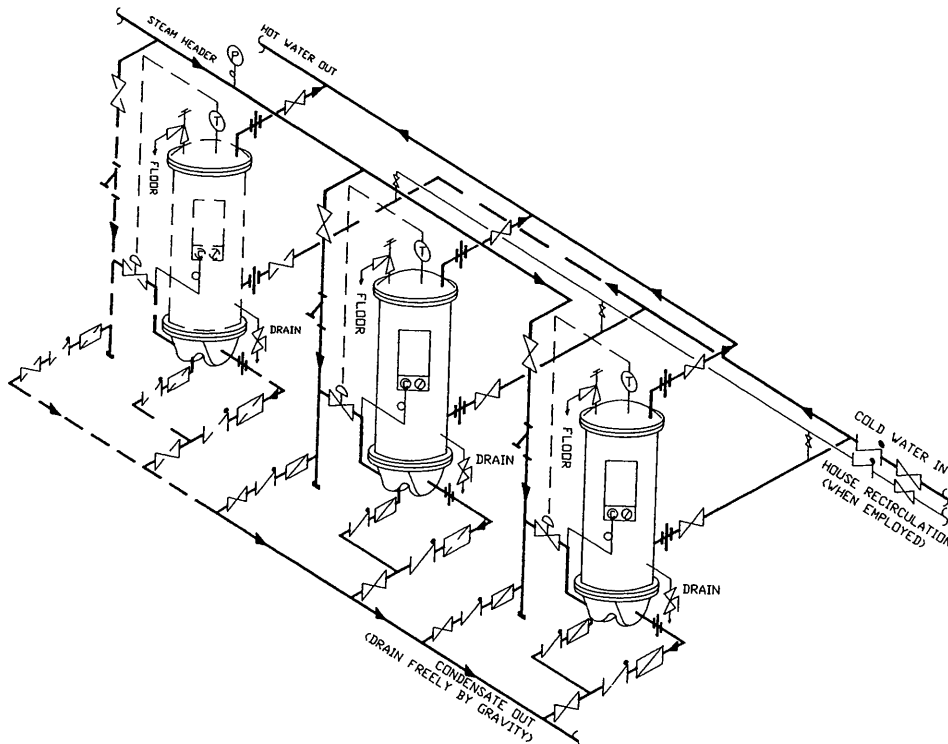
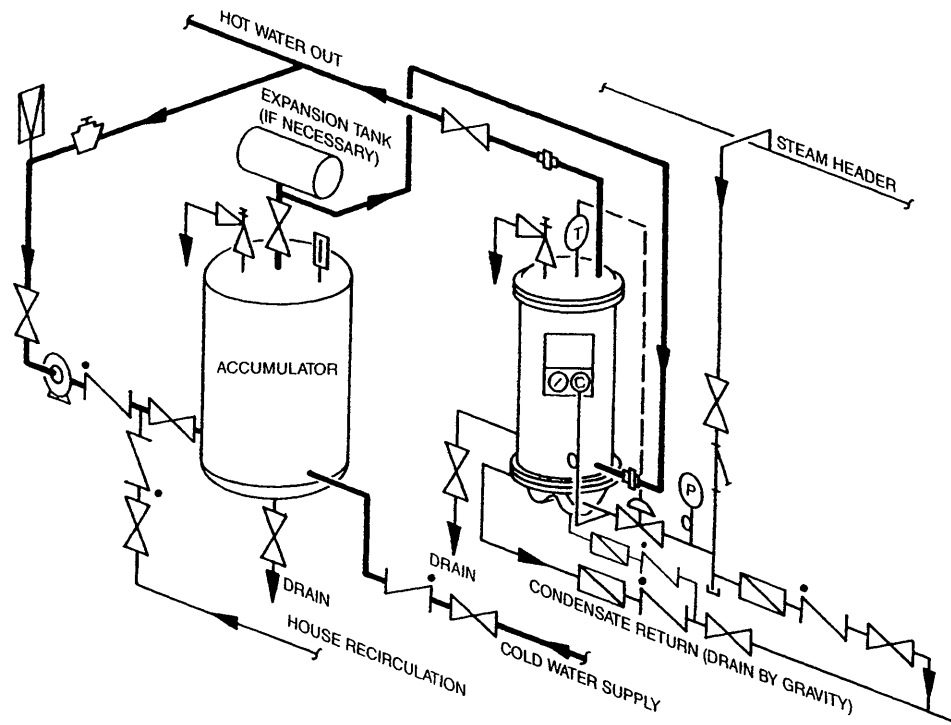

Figure HE-106-4 -- Piping Connections for Parallel Steam to Water Heaters
Figure HE-106-5 -- Piping Connections for a Single Steam to Water Heater with an Accumulator
- Parallel Heaters -- Figure HE-106-4
- Single Heater with an Accumulator -- Figure HE-106-5
For Heater system combinations not included in the illustrations noted above, use either a piping diagram furnished separately by AERCO or determine the necessary connections and accessories by combining the appropriate connections shown in the Figures listed above For instance, for parallel Heaters, make inlet and outlet connection systems in similar manner as those shown in Figure HE-106-4 Likewise if an accumulator or storage tank is included in the system, connect the Heated Water outlet piping as shown in Figure HE-106-5 or HE-106 6